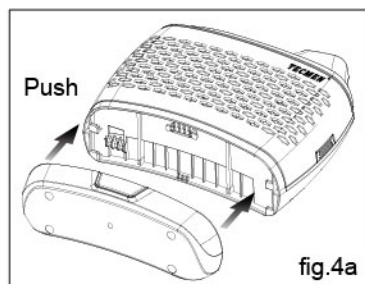

fig.4a
**How to assemble the battery:** Fitting the battery to the blower body, push until hearing 'Click' sound. (see fig.4a/4b)